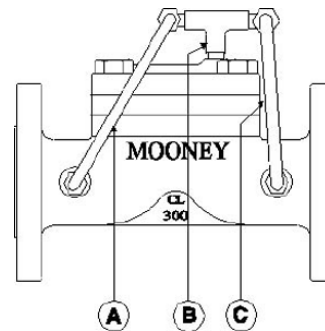

Fig. 8
- Pipe regulator with the inlet, outlet, and loading connections all common so that pressure is equalized in the entire valve during the hydrostatic test. See Figure 8.